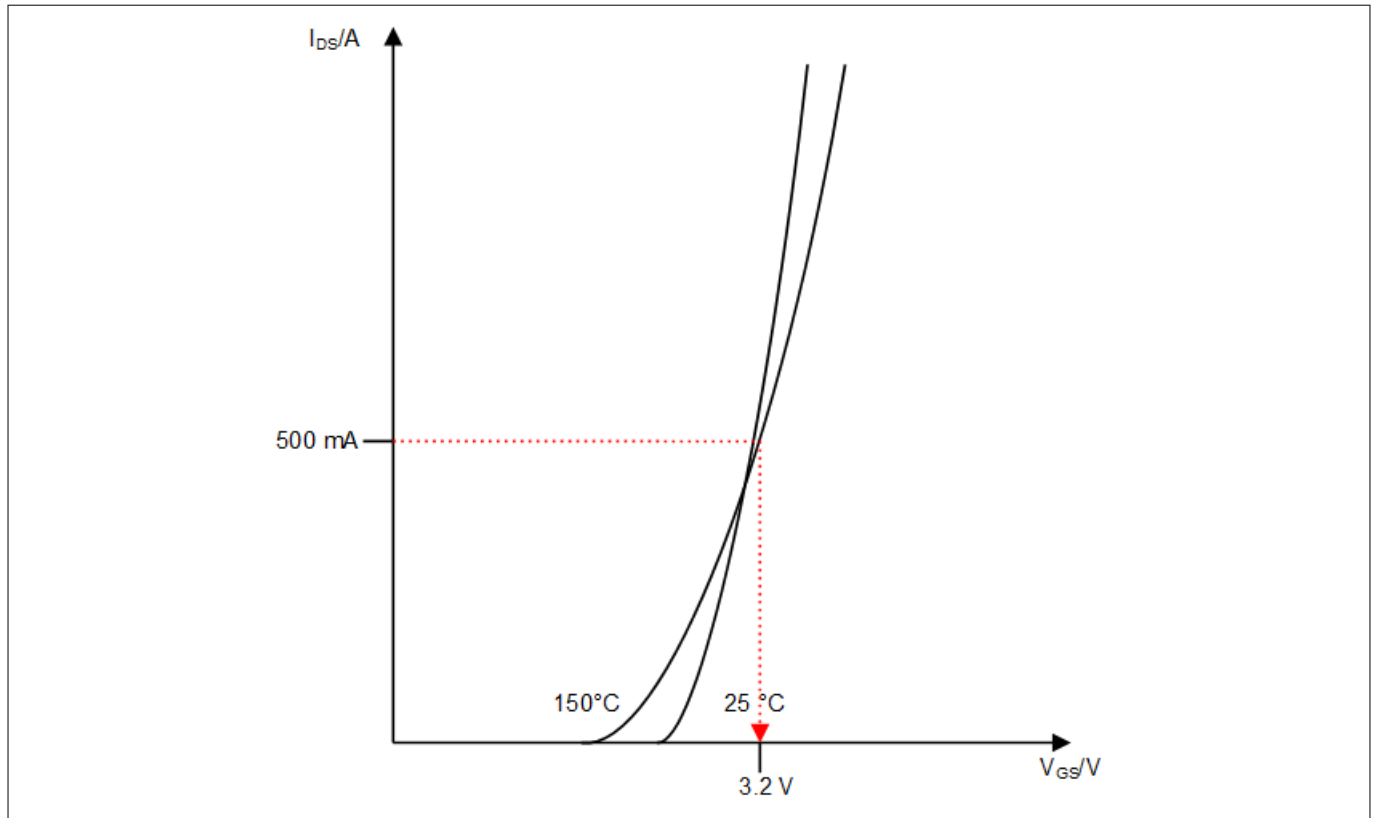

Figure 10 Example of a typical transfer characteristics curve
- In the datasheet of the MOSFET check the typical transfer characteristics curve to evaluate the voltage V_{GS} for your target current $V_{GS,target,evaluated}$; see Figure 10, note that this diagram shows typical values,